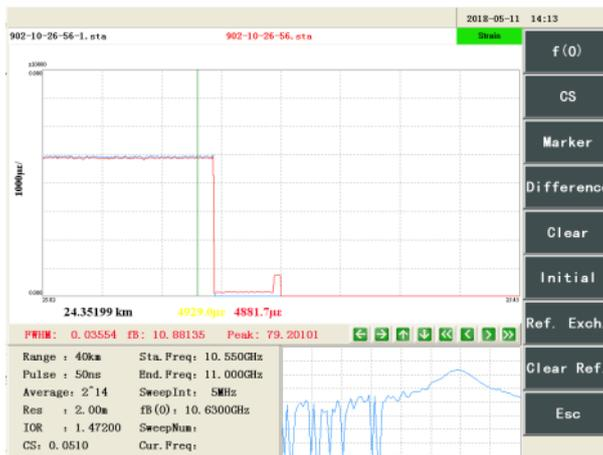

Figure 8-27 Reference interface of strain distribution
Step 2: Click [Multiwindow] → [Strain Dis.] in the main interface to enter the strain distribution reference interface, and perform the curve operation by zooming in and out on the interface and moving the buttons left and right, as shown in Figure 8-27.